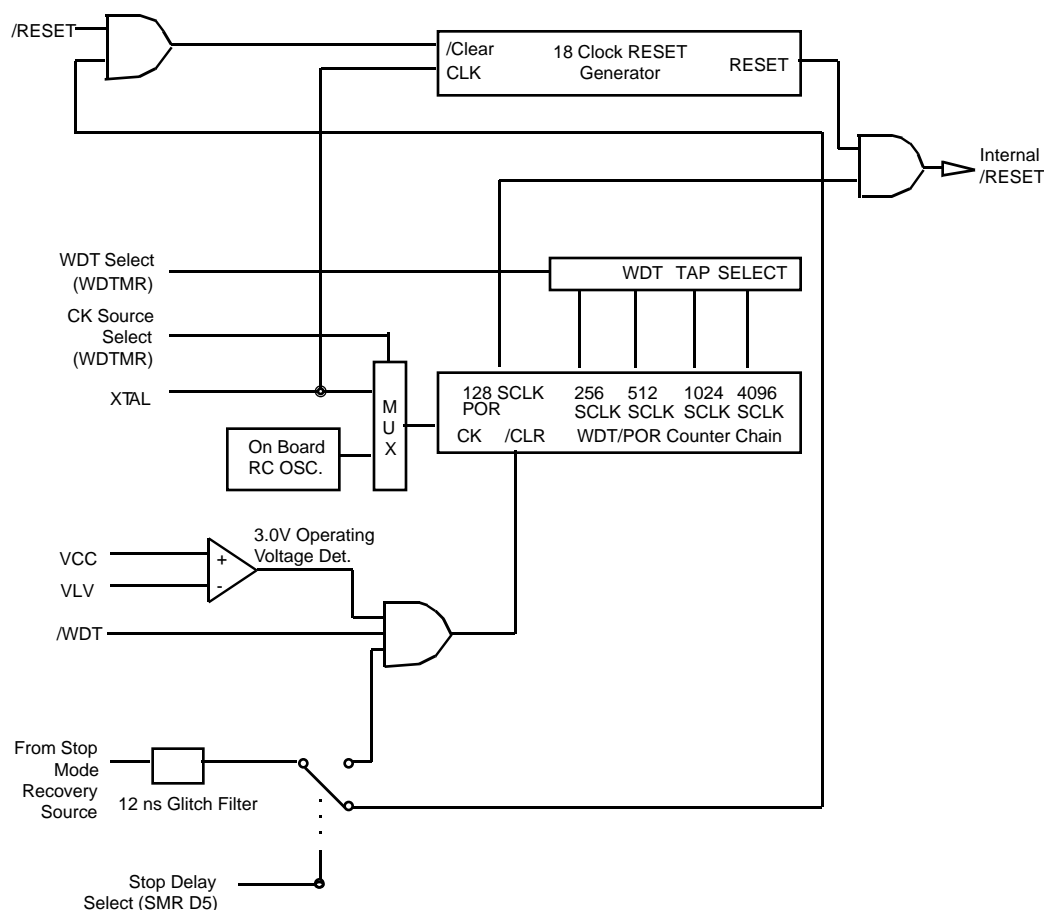

Figure 38. Resets and WDT
**Watch-Dog Timer Mode Register (WDTMR).** The WDT is a retriggerable one-shot timer that resets the Z8 if it reaches its terminal count. The WDT is initially enabled by executing the WDT instruction and refreshed on subsequent executions of the WDT instruction. The WDT circuit is driven by an on-board RC oscillator or external oscillator from the XTAL1 pin. The POR clock source is selected with bit 4 of the WDT register (Figure 38).